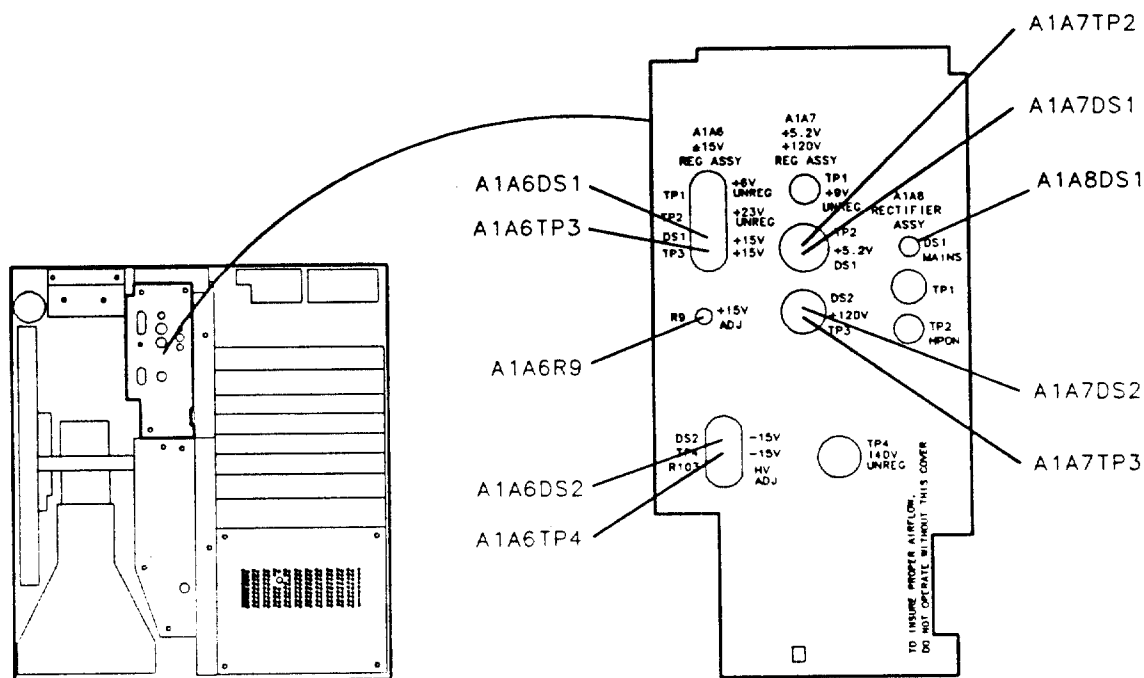

Figure 2. Location of IF-Display Section Low-Voltage Adjustments
2. Set the LINE switch to ON and press **2-22 GHz**. Mains indicator A1A8DS1 (red LED) should be lit. See Figure 2 for the location of A1A8DS1.